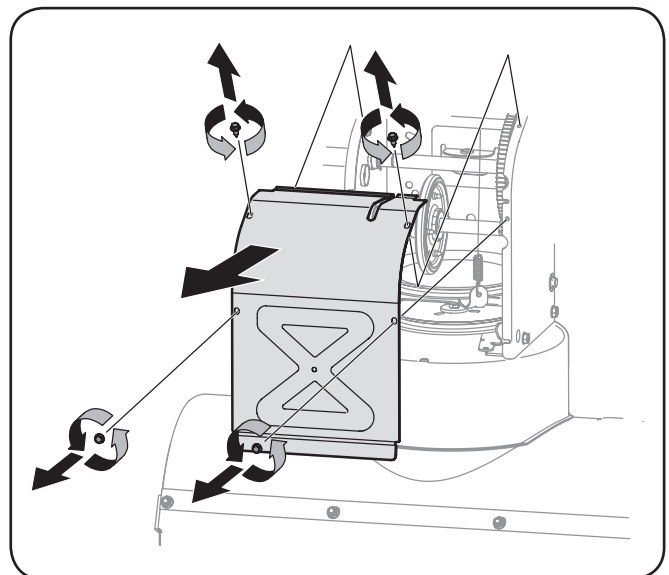

Fig. 7-4
3. Remove the frame cover from the underside of the snow thrower by removing the self-tapping screws which secure it. Refer to Fig 7-4.
6. Remove the frame cover from the underside of the snow thrower by removing the self-tapping screws which secure it. See Fig. 7-4.
3. Remove the frame cover from the underside of the snow thrower by removing the self-tapping screws which secure it. See Fig. 7-4.